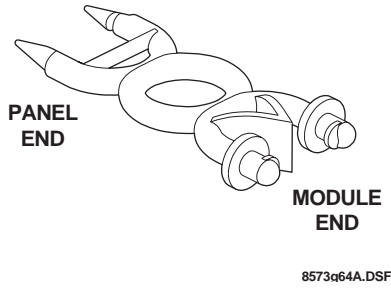

Figure 21. Support Standoff
- The panel includes two support standoffs you install to secure module backplates to the panel (see Figure 21).